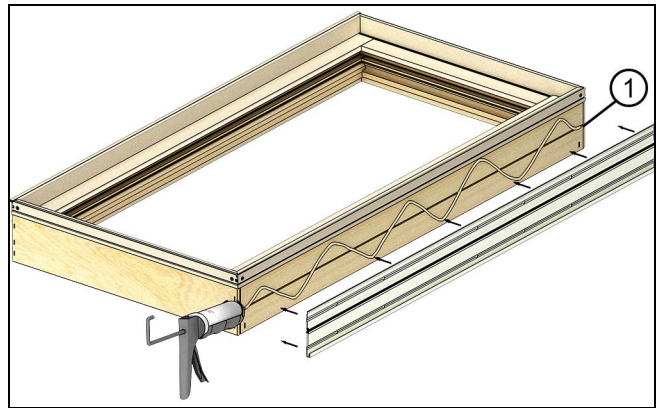

Figure 15
2. Apply MRF Components to the frames. Apply a 3/8" bead of Dow Corning® 791 (or equivalent) to the jambs in a wobble pattern. See Figure 15.